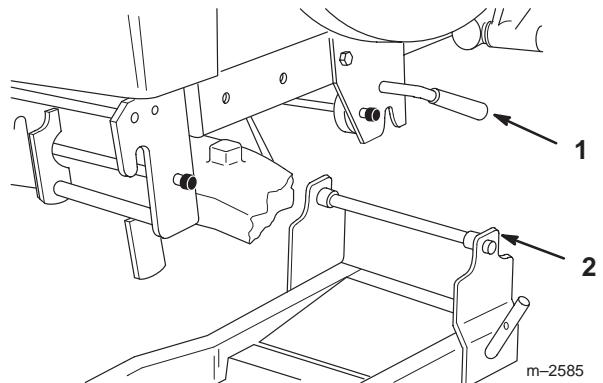

Figure 9
5. Position tractor over rear of snowblower frame. Open mid-mount hitch and lift frame rod into hitch. Close and lock hitch (Fig. 9).